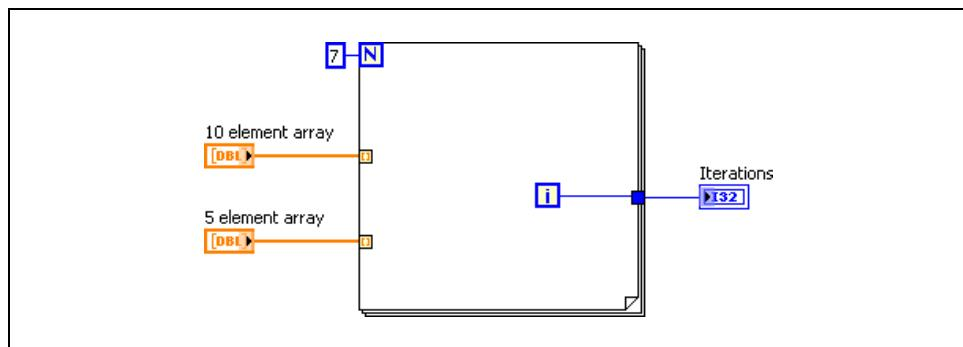

Figure 5-16. What is the Value of the Iteration Indicator?
2. You have two input arrays wired to a For Loop. Auto-indexing is enabled on both tunnels. One array has 10 elements, the second array has five elements. A value of 7 is wired to the Count terminal, as shown in Figure 5-16. What is the value of the Iterations indicator after running this VI?